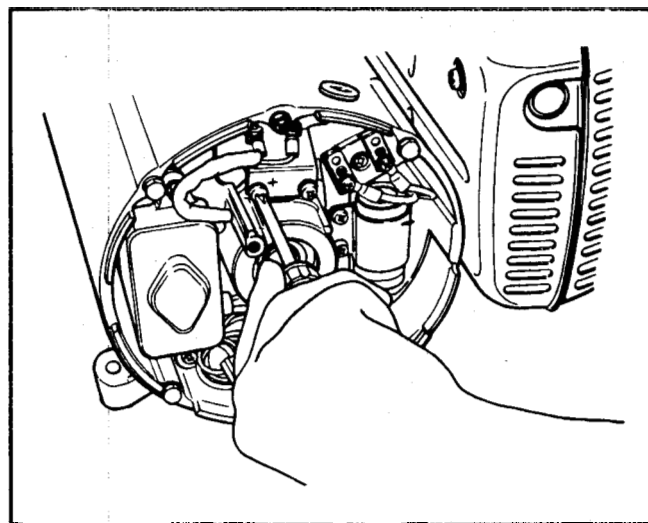

Figure 60
13. To completely tear down the engine the generator must be removed from the engine. Continue disassembly by removing the brush holder. See Figure 60.